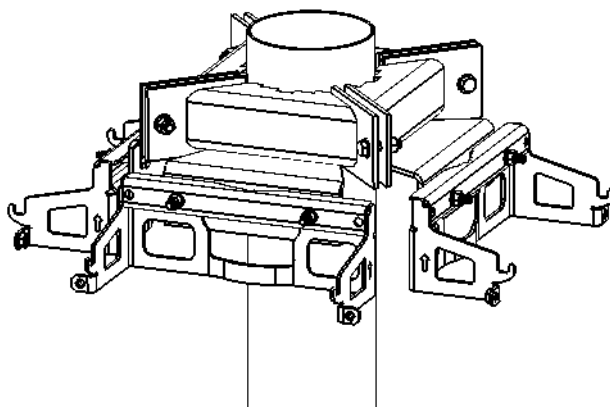

Figure 31: Upper Carrying Brackets Assembled on the Pole
- 3 Assemble the three upper carrying brackets on the mounting brackets and fasten using the supplied screws, washers and spring washers (Figure 31).